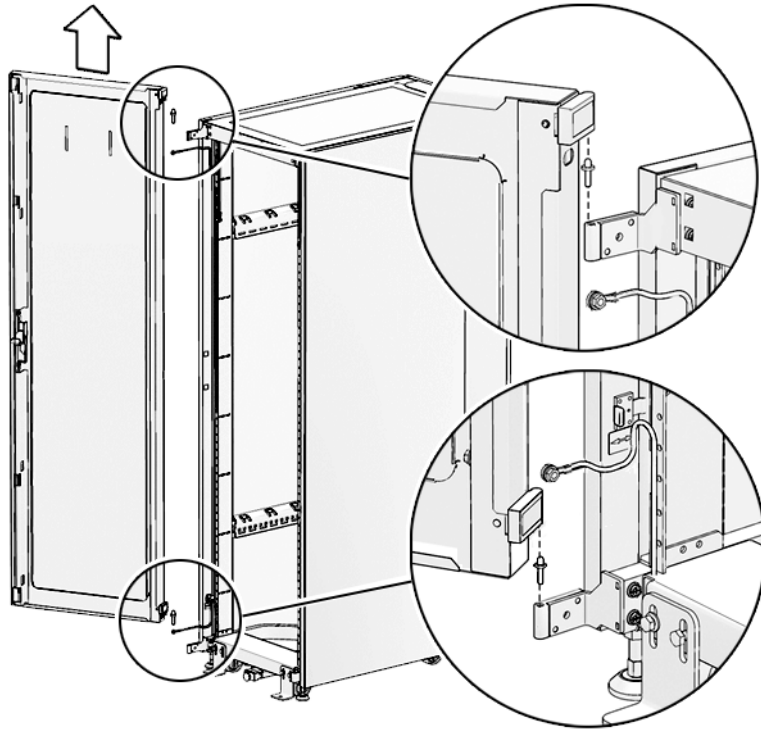

FIGURE 4-2 Removing the Silver Alloy Door and Ground Strap
1. Using a 10 mm wrench, disconnect the front portion of the ground cable from the front door (FIGURE 4-2).